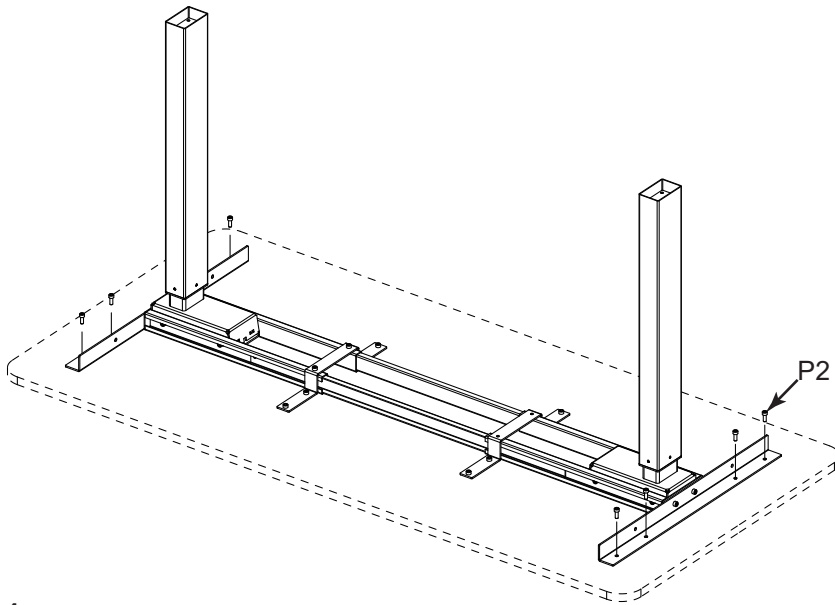

Fig.4
Step 3: Install fixing plates at both sides. (See Fig.4)